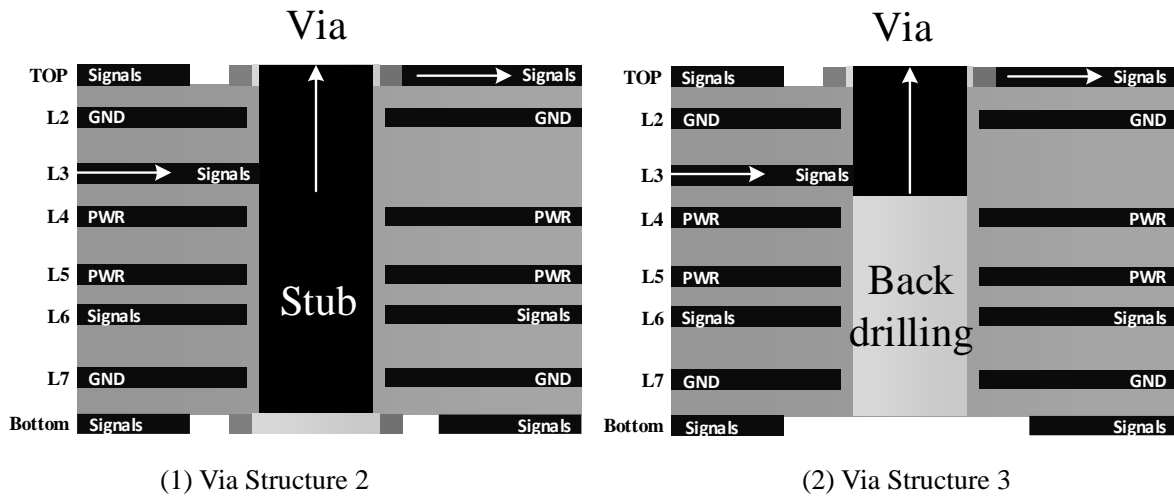

Figure 7-5 Via Structure Design Examples
- Figure 7-5 illustrates three types of via structures; structure (1) is the most common form and is the default structure in general PCB design software, structure (2) removes the non-functional pads on the inner layers that are not connected, which is beneficial for reducing via parasitic parameters, and structure (3) uses back-drilling technology to remove the via stubs on the basis of structure (2), resulting in excellent performance when routing close to the TOP layer.
(1) High-Speed Signal Via Anti-Pad Design
(2) High-Speed Differential Signal Via Design for Layer Change